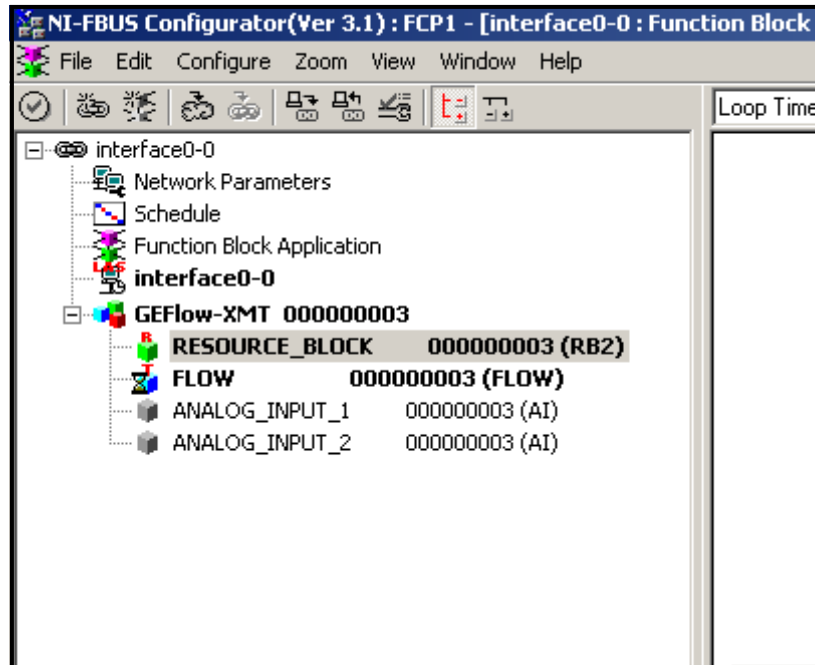

Figure 39: Configuration Utility Setup Example
Figure 39 below shows the Configuration Utility with a flowmeter on the network (Panametrics Flow-XMT).
1. Double click on the AI block for which you wish to set the units (ANALOG_INPUT_1 or ANALOG_INPUT_2 in the tree under GEFLOW-XMT; see *Figure 39 on page 108*).
1. Double click on the **FLOW** transducer block (in the tree under **GEFlow-XMT**; see *Figure 39 on page 108*).